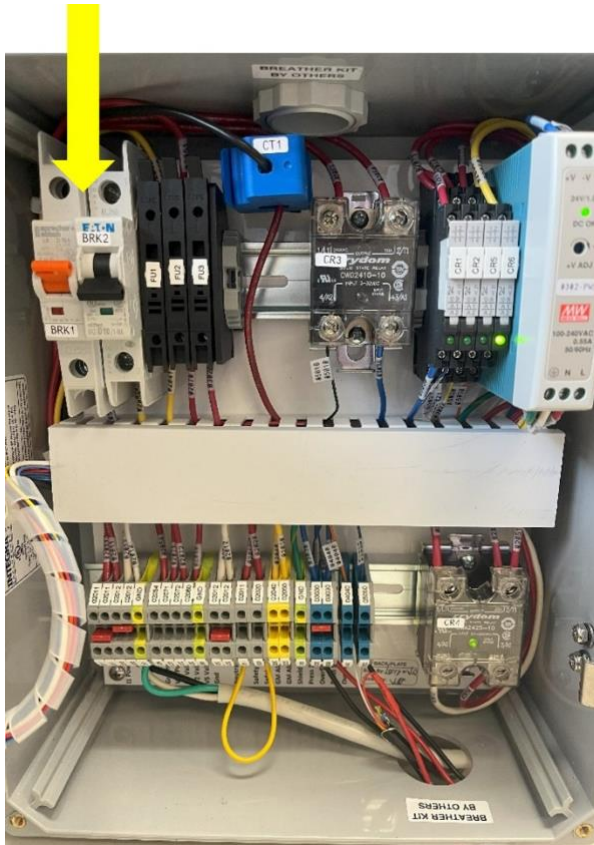

Figure 9-3: Vacuum Pump BRK1
4. Find the Vacuum Pump motor breaker (**See Figure 9-2, item #20**) and note the wire numbers and locations. **See Figure 9-3.**
See Figure 9-3.
3. Be sure the switch on the breaker is in the UP position. **See Figure 9-3.**